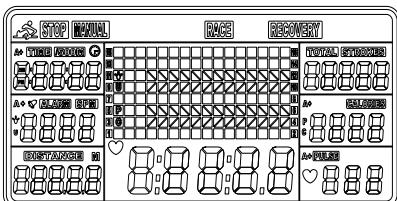

Fig. 1
1. Install 2PCS AA batteries (included) and meter will beep for 2 seconds (Fig. 1).